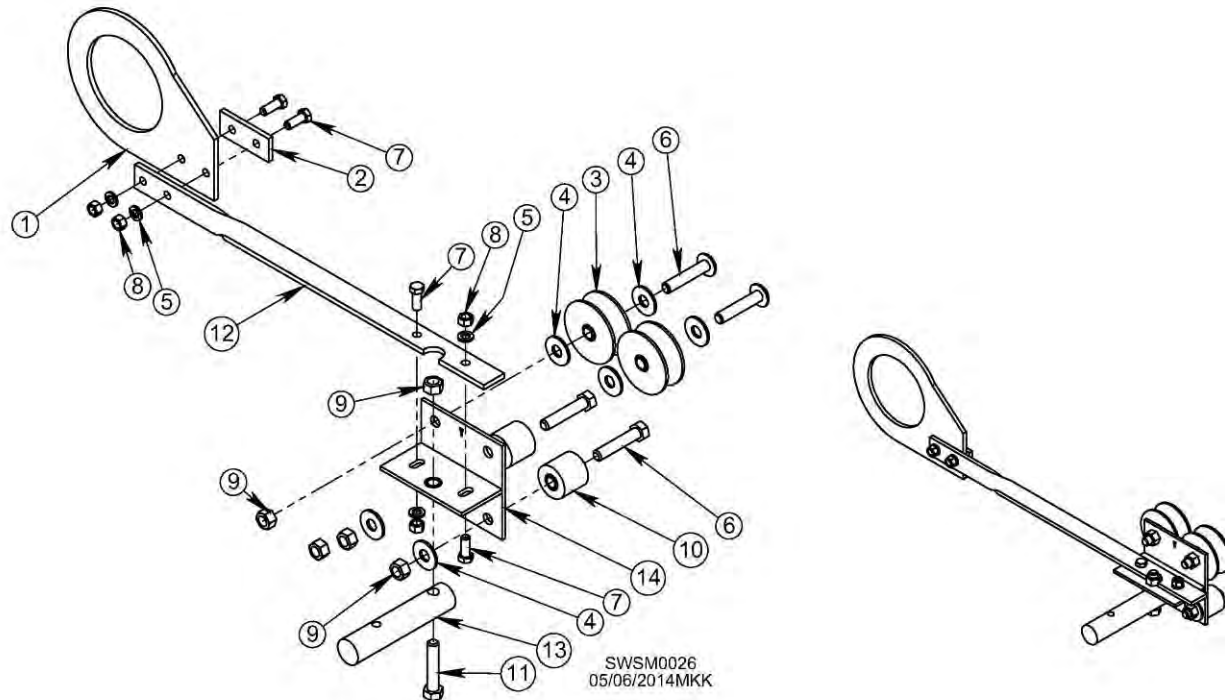

Fig. 15 & Table 9 – Exploded view & parts list for stabilizer kit trolley pivot assembly
- 16 Add a 1/2" flat washer to each 1/2" x 2-1/2" bolt and slide a top trolley pulley onto each, adding second 1/2" flat washer on outside of pulleys. See Fig. 15.
- 17 Insert 1/2" x 2-1/2" bolt through roller assembly. See Fig. 15.
- 18 Add 1/2" lock nut to each bolt. See Fig. 15.
extended hole on weldment bracket. Add 1/2" lock nut. See Fig. 15.
- 20 Insert 3/8" x 1-1/4" bolts through 2 holes trolley bracket cover, bracket plate, and bracket bar, adding 3/8" lock washers and nuts. See Fig. 15.
- 21 Bolt bracket bar to weldment bracket using 2 3/8" x 1-1/4" bolts pointing down through assembly. Add 3/8" lock washer and nut. See Fig. 15.